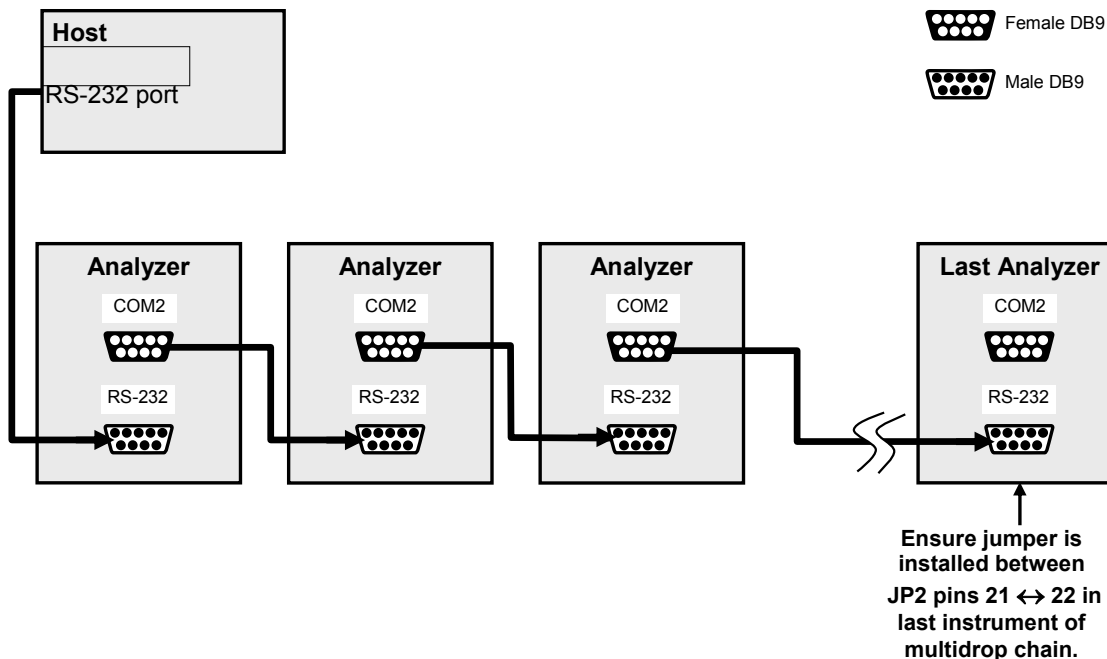

Figure 3-17: RS-232-Multidrop PCA Host/Analyzer Interconnect Diagram
5. Referring to Figure 3-17 use straight-through DB9 male → DB9 female cables to interconnect the host RS232 port to the first analyzer’s RS232 port; then from the first analyzer’s COM2 port to the second analyzer’s RS232 port; from the second analyzer’s COM2 port to the third analyzer’s RS232 port, etc., connecting in this fashion up to eight analyzers, subject to the distance limitations of the RS-232 standard.